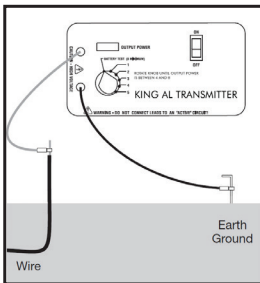

FIGURE 1: Transmitter Setup
1. Turn the transmitter to off position. Use the stake provided to connect the black lead to a good earth ground. Connect the red lead to the wire you wish to locate. (Refer to Figure 1)